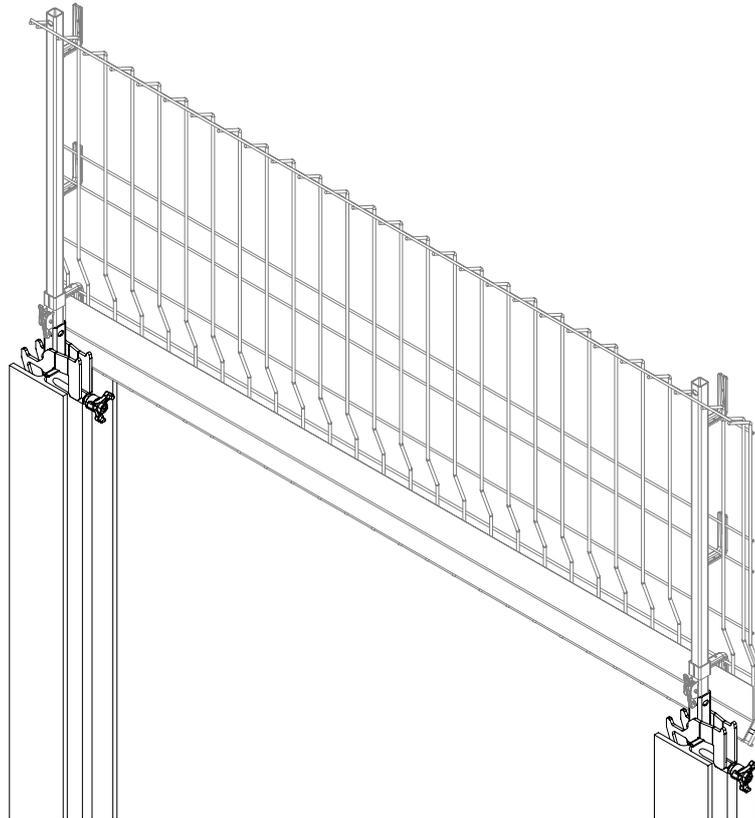

Fig. A2.18
1. Slide the Sheet Piling Clamp (4) over the girder web.
3. Insert Post (6) in the rectangular tube of the Sheet Piling Clamp, see section A3.
4. Mount Side Mesh Barrier, see section A4. (Fig. A2.18)